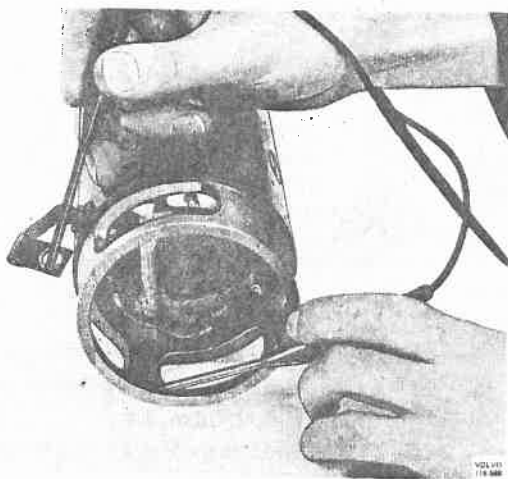

Fig. 33-21. Short-circuit testing, housing - field windings
- Connect a test lamp between the starter motor housing and field windings. If the lamp lights, then the windings or grommet in the housing is damaged, Fig. 33-21. Concerning replacement of the magnetic windings, see points 3 and 4.
- Solder the grommet in position and check with a test lamp that there is no short-circuiting in the starter motor housing, Fig. 33-21.